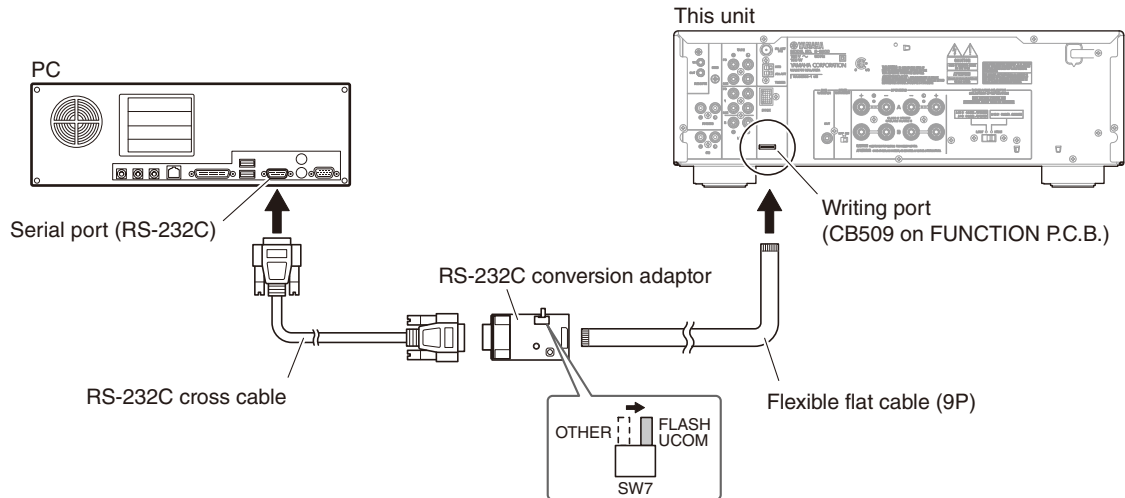

Fig. 1
- Set the switch (SW7) of RS-232C conversion adaptor to the “FLASH UCOM” position. (Fig. 1)
- Connect the writing port (CB509 on FUNCTION P.C.B.) located on the rear panel of this unit to the serial port (RS-232C) of the PC with RS-232C cross cable, RS-232C conversion adaptor and flexible flat cable as shown below. (Fig. 1)